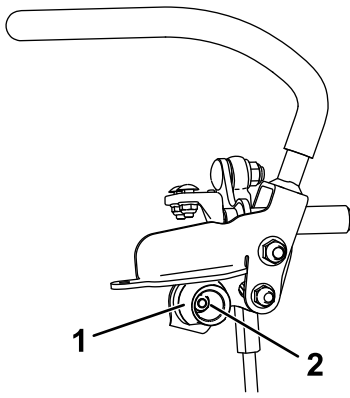

Figure 42
6. Loosen the nut holding the cam (Figure 42).